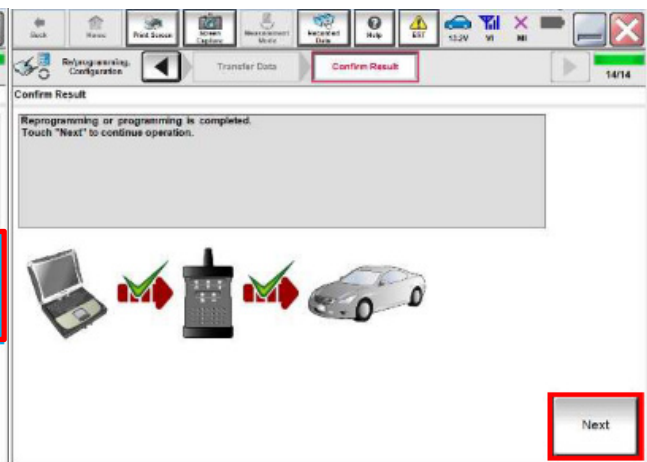

Figure 26
41. Wait for the data transfer to complete (Figure 26) and then select **Next**.